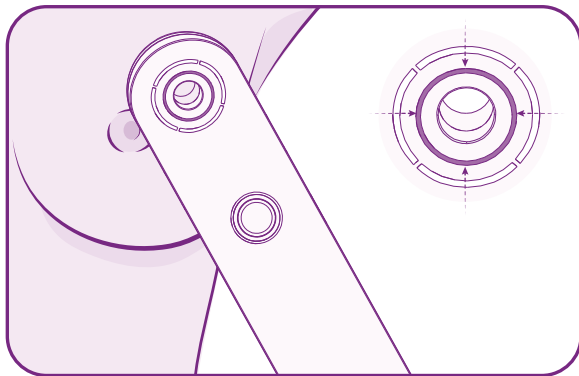

Figure 8: Injection port location.
- Once the injection port is located, a green light ring will turn on. (Figure 8)